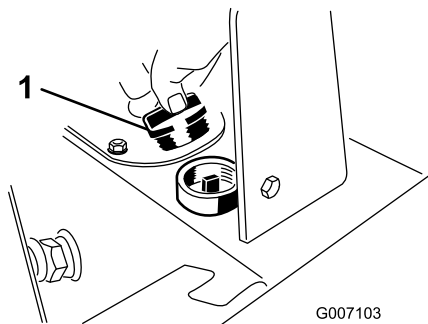

Figure 17
- Clean the area around the filler neck of the hydraulic tank and remove the cap from the filler neck (Figure 17).